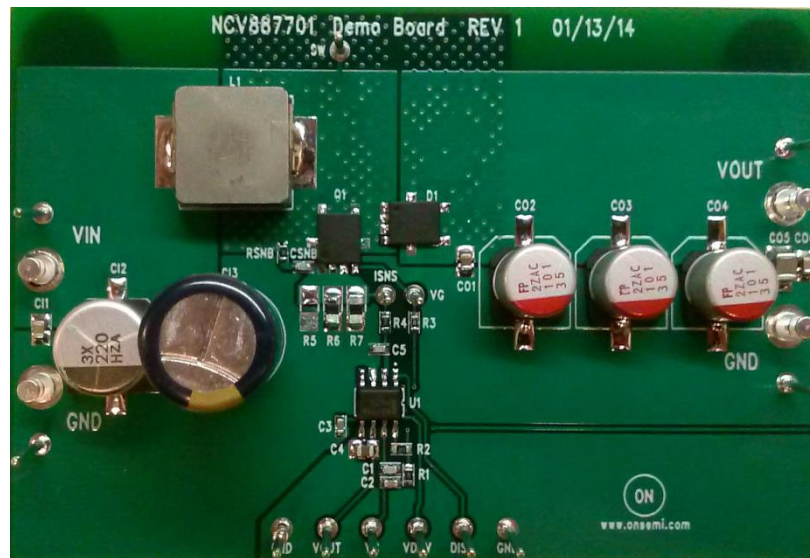

Figure 1. NCV887701 Start-Stop Evaluation Board
1. Connect a DC source voltage (15 A capable) set to a voltage of 12 – 13 V as shown in Figure 1.
2. Connect the DISB TTL control signal as shown in Figure 1. The initial DISB state should be set to logic -‘0’.